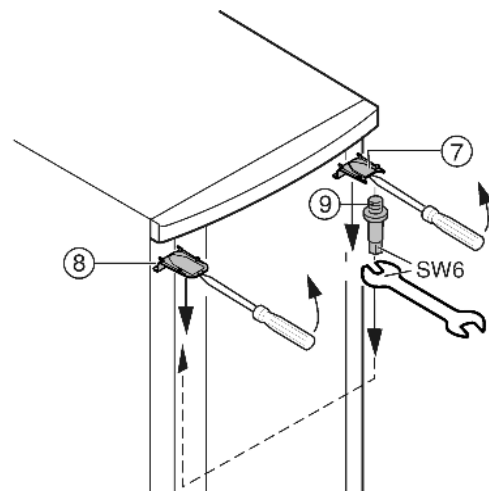

Fig. 6
- ▶ At the top, use a screwdriver to unclip cover Fig. 6 (7) and cover Fig. 6 (8) at the front, and remove by pulling out and down.
- ▶ Unscrew the bearing pin *Fig. 6 (9)* and screw it firmly into place on the opposite side (**with 4 Nm**).
- ▶ Refit the cover *Fig. 6 (7)* on the side of the bearing pin: insert at the back, snap in at the front.
- ▶ Fit the cover *Fig. 6 (8)* on the opposite side: insert at the back, snap in at the front.
- ▶ Hang the door on the bearing pin *Fig. 6 (9)* at the top.